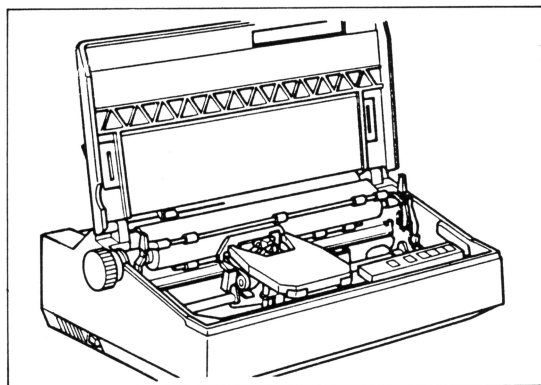

Fig. 1
- **COVER-OPEN detection function (See Fig. 1)**